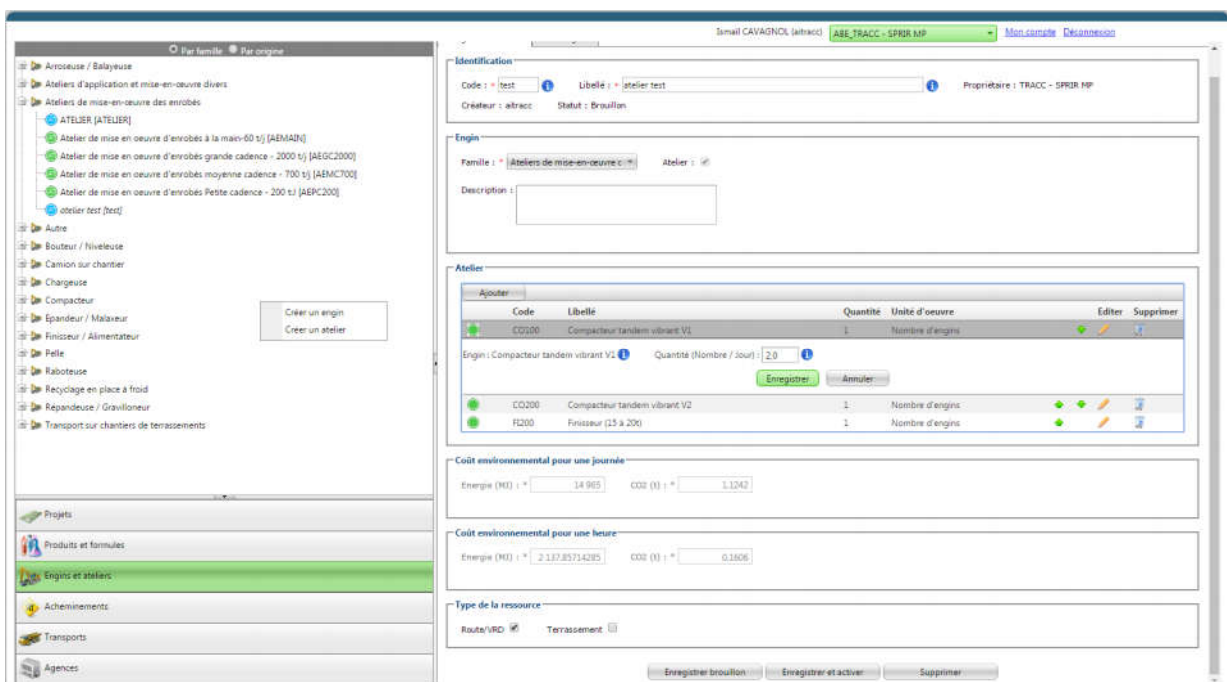

Figure 73 – Choice of machine quantities in the workshop
- 8- Click on "Edit" (Figure 73) to modify the number of each